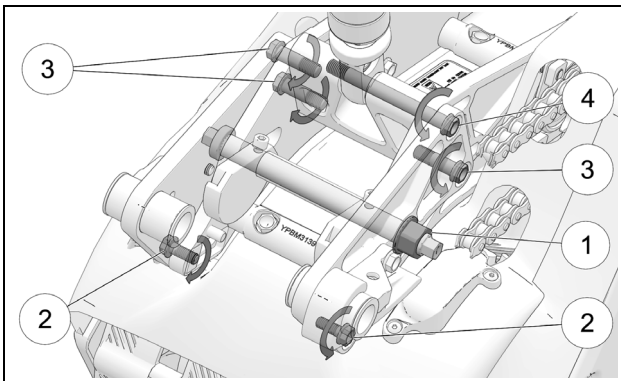

Figure 39
- Loosen eccentric bolt nut (1) a little using the special socket provided in your YETI SnowMX parts kit. Figure 39.
- Loosen slightly, the two M8 bolts (2), and the four M10 bolts (3-4) on each side of the Bike Mount so that the Bike Mount assembly can slide. Figure 39.